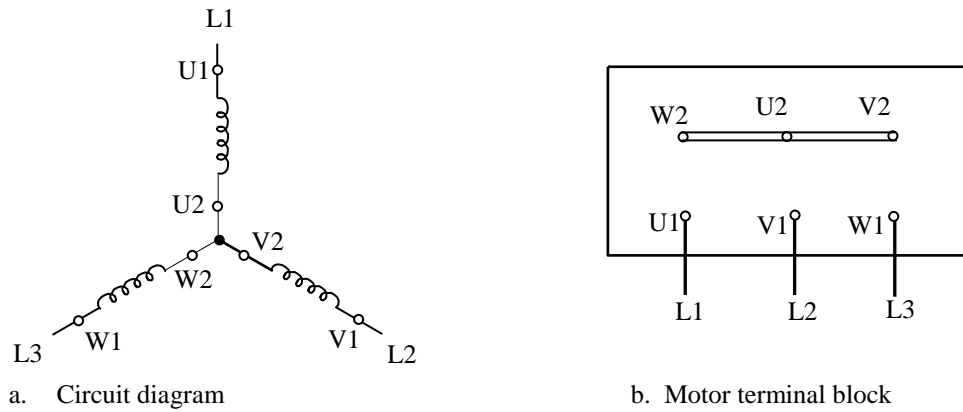

Figure 4 Star (Y) connection circuit diagram and on motor terminal block
In delta connected motor, the electrical power input (and mechanical output power) is three (3) times that of a star connected motor. Circuit symbols and terminal block connections on a motor for star and delta connections are shown in figures 4 and 5. (ABB. Softstarter Handbook, 2010,7.)